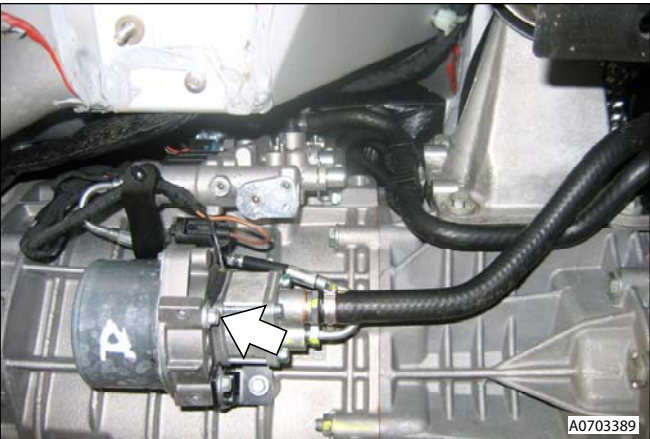

Figure 5
28. Remove ground eye from pump body (bolt x1)(see Figure 5).